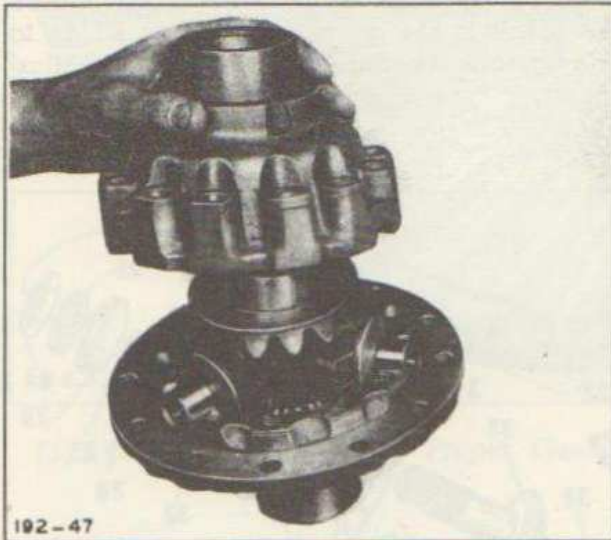

Fig. 45—Matching Casing Halves
sure that punch-marks on casing halves match, Figure 45, and tap into position. Insert screws (15) and fasten with new locking wire.